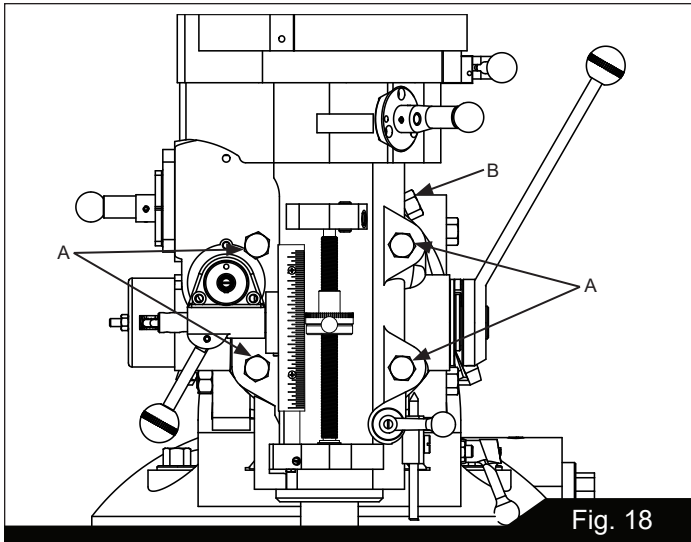

Fig. 18
1. Loosen four large hex nuts that secure the mill head to the ram adapter (refer to Figure 18).
2. Turn the worm nut (B, Figure 18) to tilt the head left or right as required. Use the scale on the ram adapter to set the desired angle.